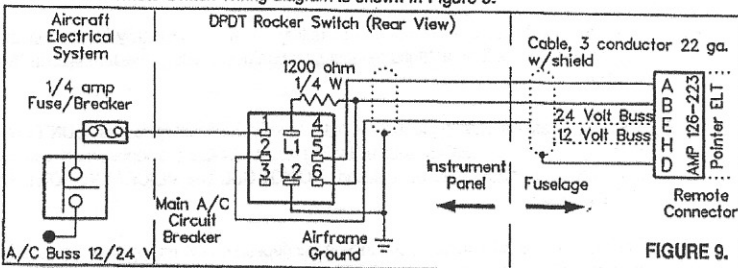
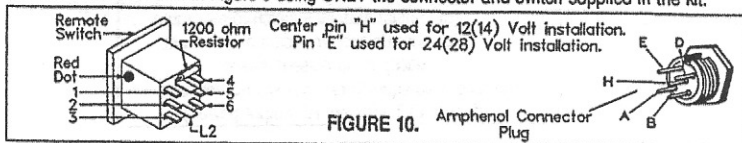

FIGURE 9.
FIGURE 10.
3.6-2 The Remote Switch Wiring diagram is shown in Figure 9.
3.6-4 Figure 10 shows pin/terminal details for the connector and remote switch. Connect the wires as shown in Figure 9 using ONLY the connector and switch supplied in the kit.